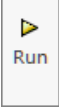

**Fig. 14**
Step 6. Rename the goals to **Lift** and **Drag**. To rename, click **Force (Y)**, press **F2** key and key-in **Lift**, **Fig. 14**. Rename **Force (Z)** to **Drag**.